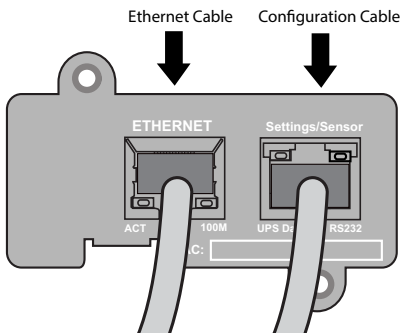

Figure 2. Connecting the Card
2. Plug the RJ-45 end of the supplied configuration cable into the Settings/Sensor port on the card (see Figure 2).
4. Connect an active Ethernet cable (not supplied) from the network connection to the Ethernet port on the Network Card-MS (see Figure 2).